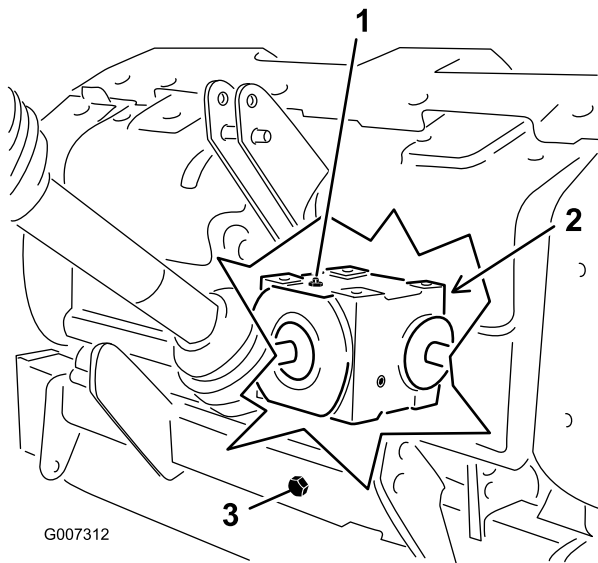

Figure 27
2. Remove the check plug from the gearbox (Figure 27).
3. Make sure oil is up to the bottom of the check plug hole in gearbox (Figure 27).
1. Clean debris from fill plug and drain cap to avoid contamination (Figure 27).